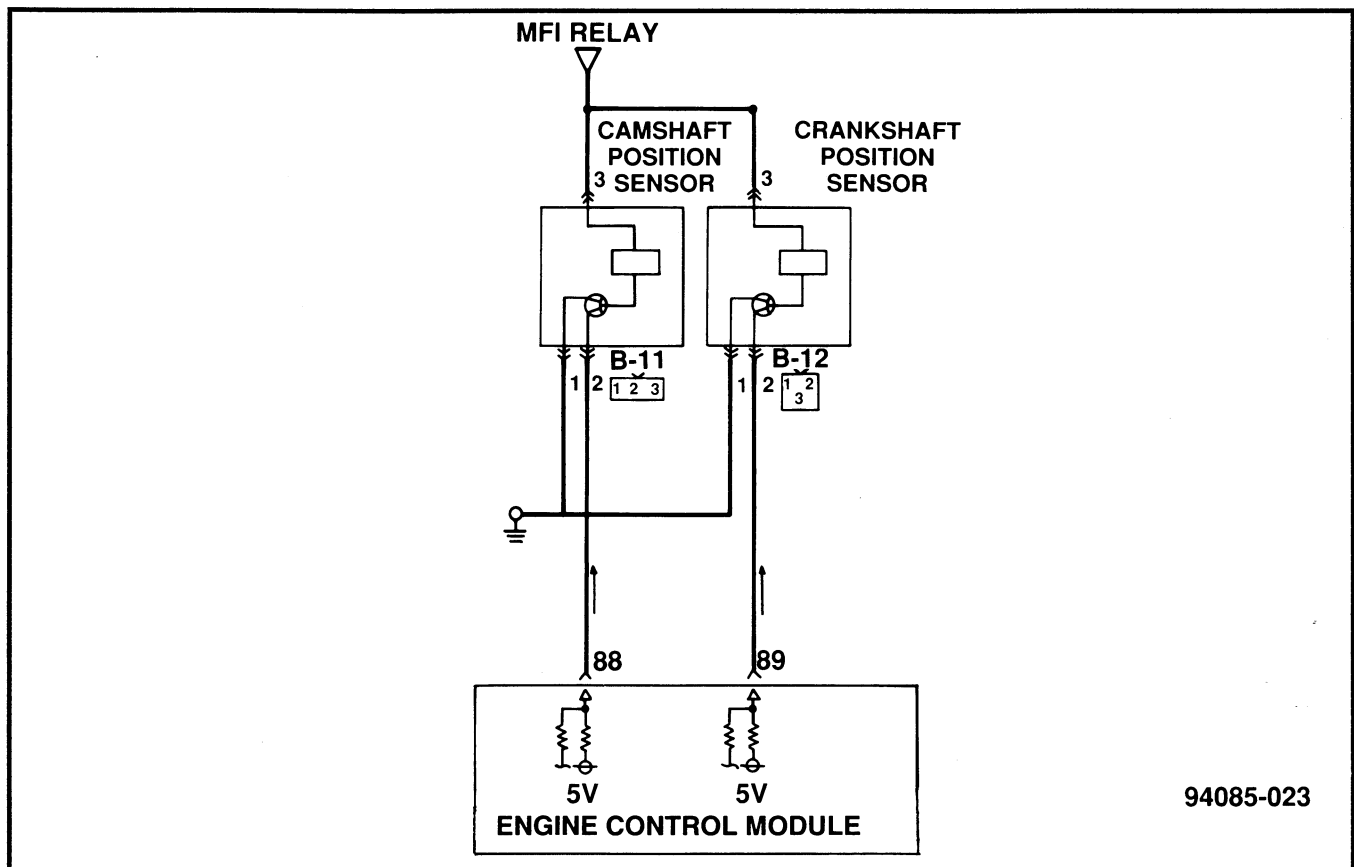

Figure 22 Crankshaft and Camshaft Position Sensor Circuits
The CKP sensor uses a 3-way connector, and is fed 12 volts from the Multiport Fuel Injection (MFI) relay (formerly called the "control relay") on pin 3 (RD) to power up the sensor. 5 volts are fed from the ECM to pin 2 (BL/WT), and ground is supplied on pin 1 (BK) (fig. 22).
The CMP sensor uses a 3-way connector, and is fed battery voltage on pin 3 (RD) from the MFI relay to power-up the sensor. 5 volts are supplied from the ECM (pin 88) to pin 2 of the CMP sensor (BL/RD), and ground is supplied on pin 1 (BK) (fig. 22).